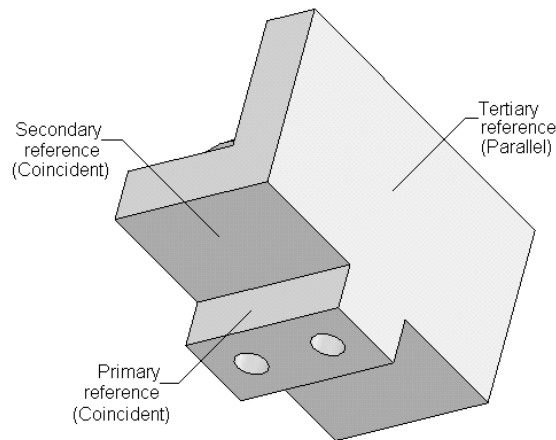

Figure 12-57 Faces to be selected as mate references
12. Similarly, create the mate reference in the Vice Jaw part document. The faces to be selected as reference are displayed in Figure 12-57. The name of the mate reference in the **Reference Name** rollout should be the same in both part documents.